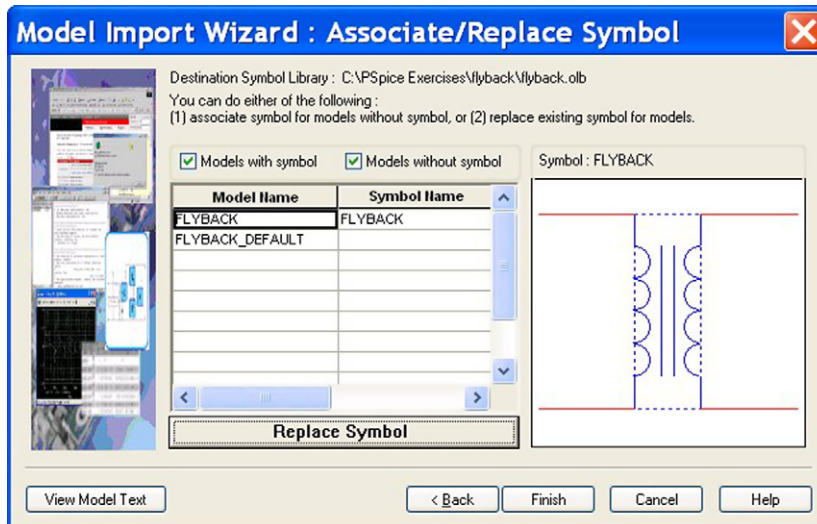

FIGURE 21.25
9. You should see the model name shown with an associated symbol (Figure 21.25).